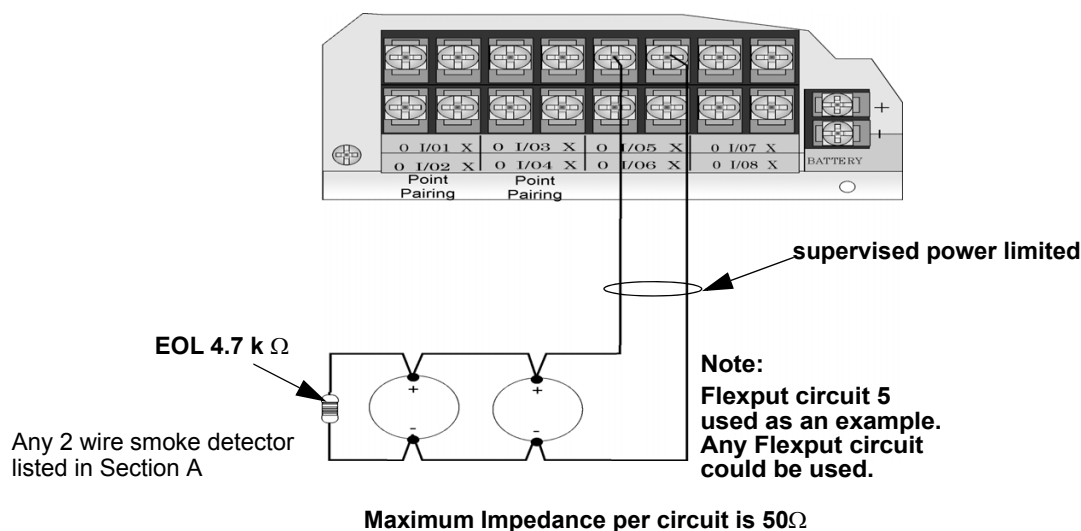
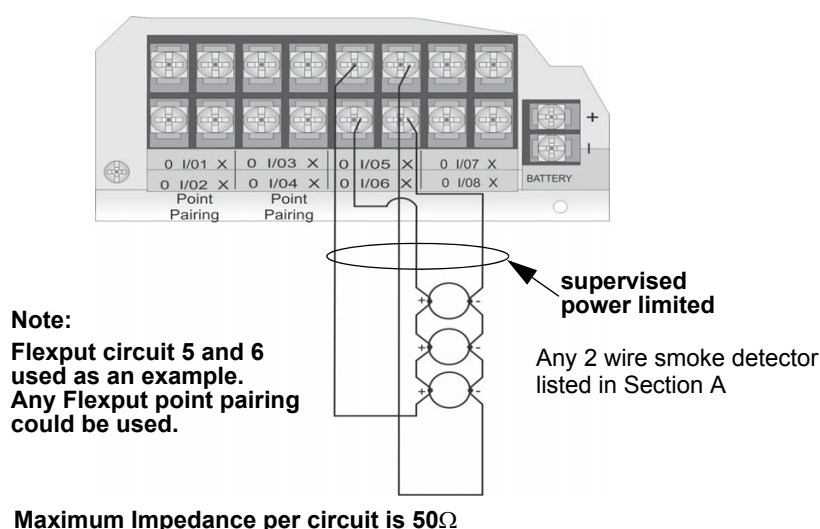

Figure 4.51 Two-Wire Class B Smoke Detector
Figure 4.52 Two-Wire Class A Smoke Detector Connections
Any compatible UL listed two-wire smoke detector can be used with the control panel (see Section A for list of compatible smoke detectors). Figure 4.51 and Figure 4.52 illustrate how to connect a UL listed 2-wire detector to the control panel.
To install a Class B two-wire smoke detector, wire as shown in Figure 4.51.
To install a Class A two-wire smoke detector, wire as shown in Figure 4.52.
**NOTE:** In programming any point that uses multiple Flexput circuits, the lowest Flexput circuit number is used to refer to the circuit pair. For example, Figure 4.52 uses both Flexput circuit 5 and 6, so in programming it would be referred to as point 5